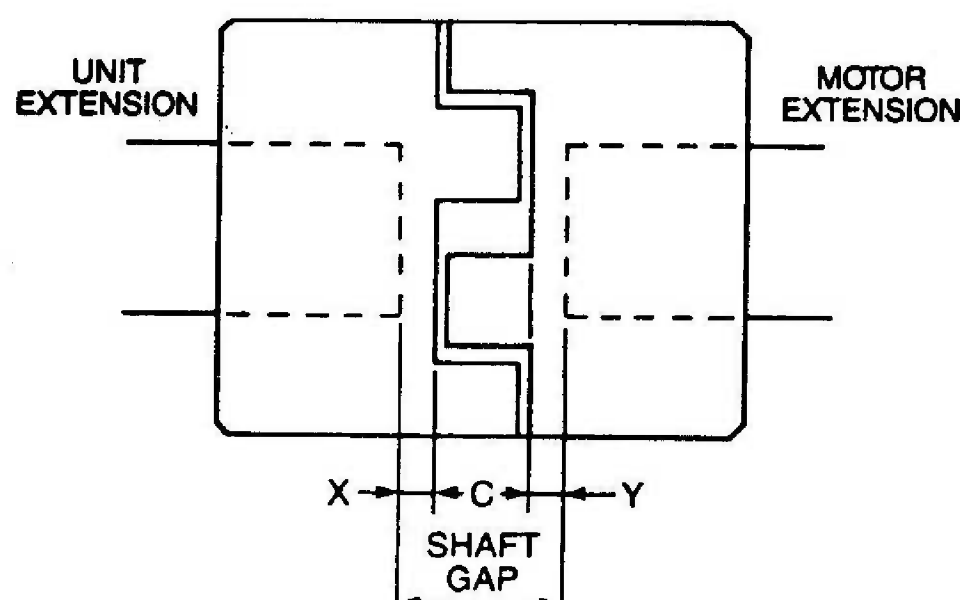

Figure 17 — Positioning the motor coupling
4. Refer to Fig. 17 and to Table 11. Place the coupling halves on the unit input (high-speed) shaft and motor shaft and set the coupling overhang distances as shown in Table 11. Tighten the set screws. The reducer hub set screw can be tightened through the access hole in the C-faced adapter.